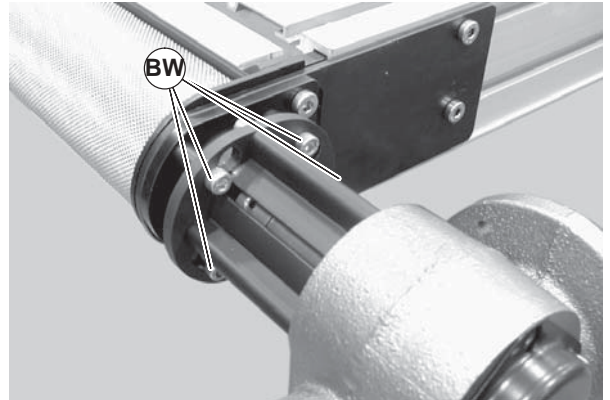

Figure 55
b. Loosen the four (4) lock screw (Figure 55, item BW).